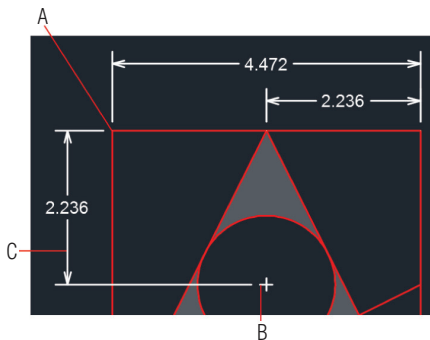

FIGURE 11.14 Creating another linear dimension
5. Type **DIM** and press Enter. Click points A, B, and C shown in Figure 11.14.